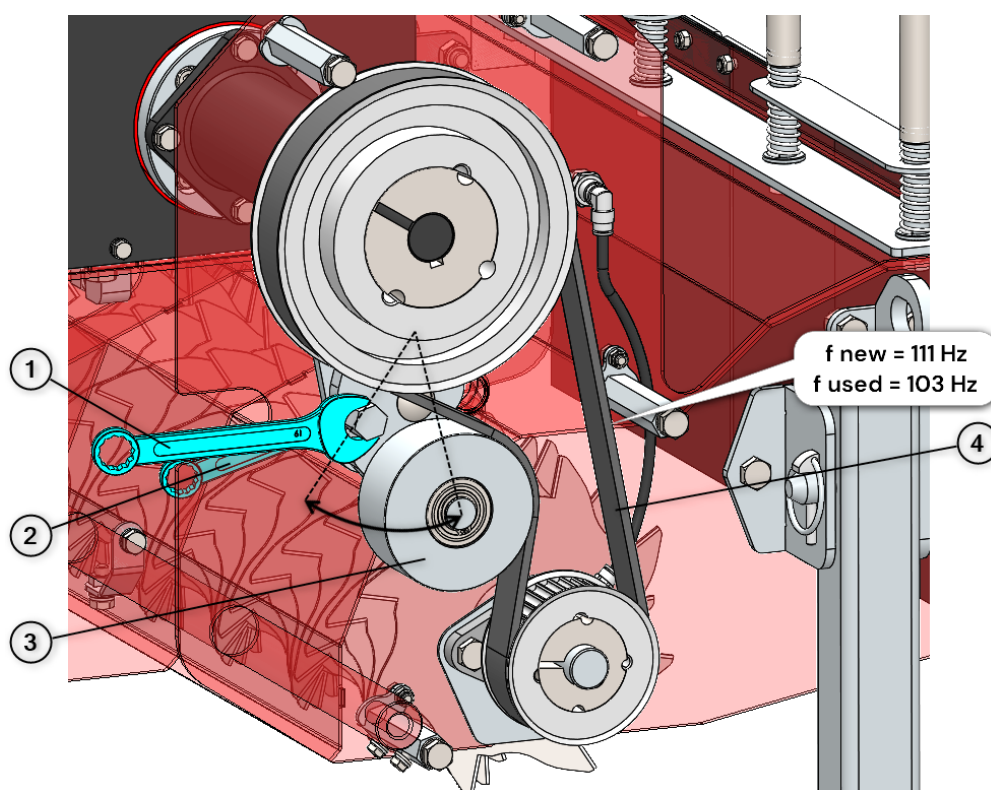

Fig. 23
Timing belt A is located at the rear left. To replace and tension it, proceed as follows (see Fig. 23):
1. Use a 17 mm spanner (2) to loosen the nut on the tensioner pulley (3) by one turn. The tensioner pulley can now move freely back and forth.
2. If the timing belt (4) (SKU A0002092) needs replacing, it can now be removed from the timing belt pulleys, and a new one can be fitted.
3. The timing belt (4) must be retensioned. To do this, use a 19 mm spanner (1) and place it on the hexagonal stub.
5. Then use a frequency tension tester to check the tension of the timing belt. The correct frequency for a new and existing timing belt is shown in Fig. 23.
7. Once the correct frequency of  $\pm 3$  Hz has been achieved, tighten the nut (2) on the tensioner pulley to the correct torque; see chapter 12.7.